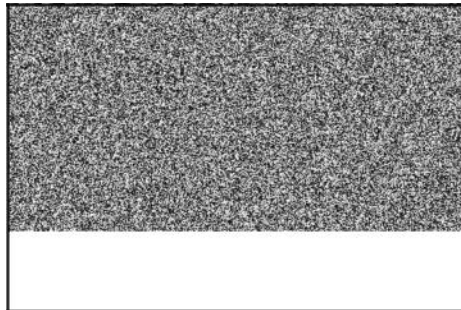

Figure 13
1. Install the oil fill tube and dipstick. Install the screws (**F**, Figure 13) and blower housing.